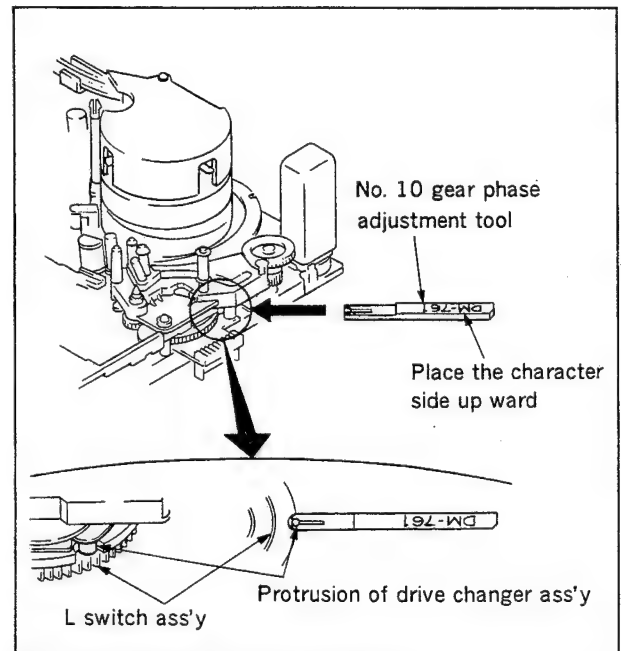

Fig. 4-4-2 No. 10 gear installation
12. No. 10 gear installation (Fig. 4-4-2)